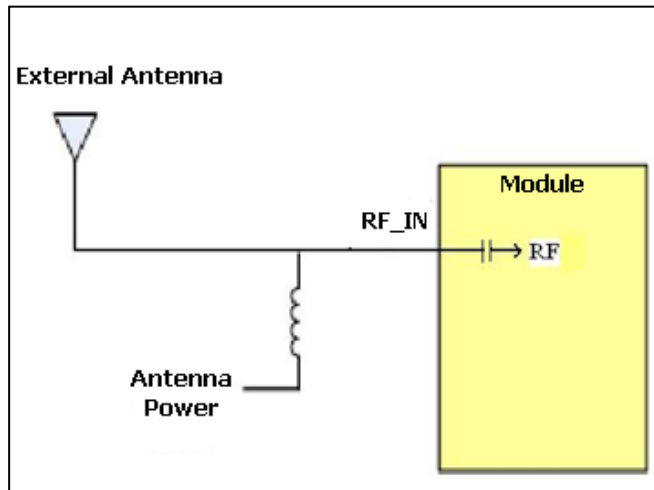

Figure Mode 2 (External chock coil)
- Mode2 (**ex. Gmm-r1, Gmm-3701**), the power supply needs to be externally provided and is connected directly to the External Antenna via chock coil. See Figure Mode 2.